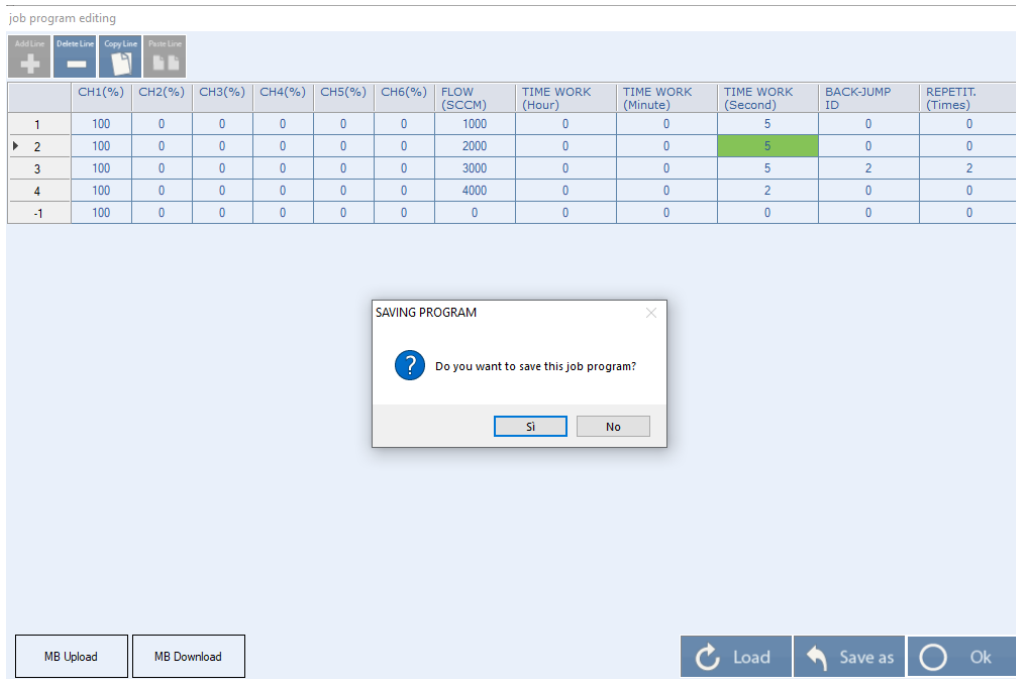

Figure 5-35
5. If you press the “Ok” button and click “Yes” in the confirmation windows the “job program editing” will close and it will be possible to run the program written from the software PC. (Figure 5-35)